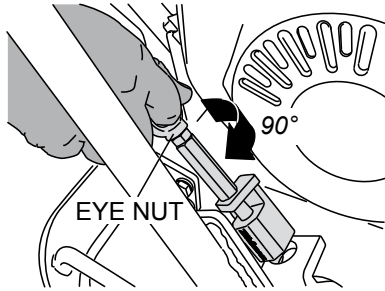

Figure 7. Turning Eye Nut
2. Pull and turn the eye nut, 90° to the right. See Figure 7.